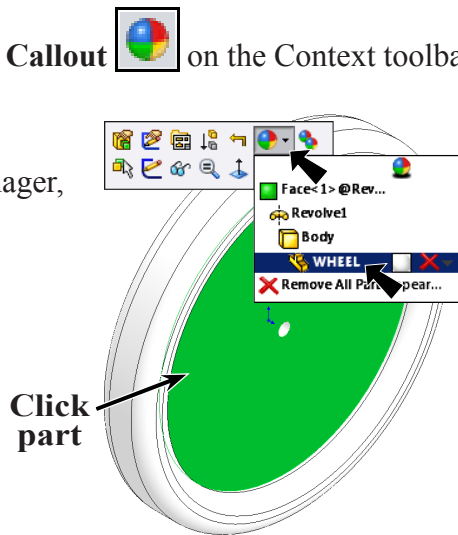

Fig. 13
Step 2. Click the part, click **Appearance Callout**  on the Context toolbar and click **WHEEL** , Fig. 13.